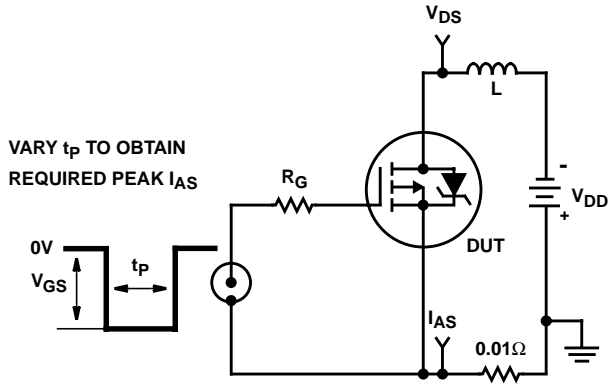

FIGURE 15. UNCLAMPED ENERGY TEST CIRCUIT
4. $V_{DD} = 50\text{V}$, starting $T_J = 25^{\circ}\text{C}$, $L = 9.8\text{mH}$, $R_G = 25\Omega$, peak $I_{AS} = 11\text{A}$. See Figures 15, 16.